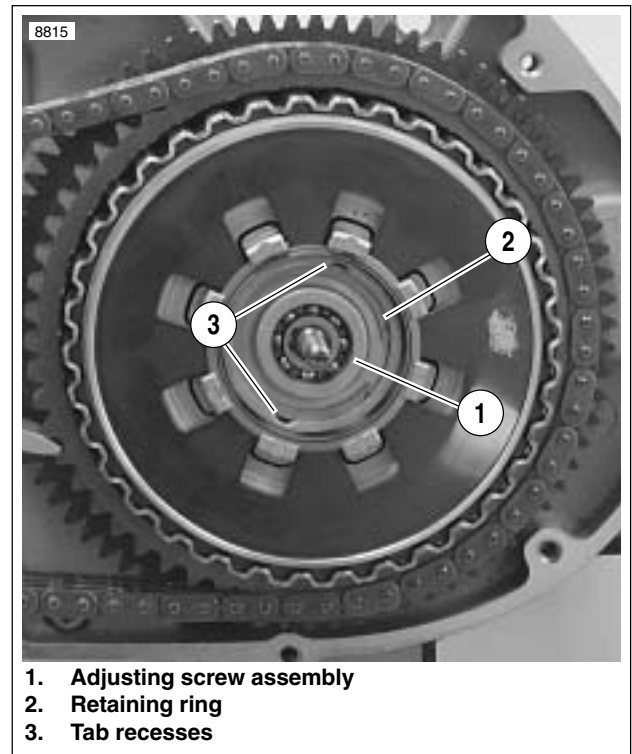

Figure 6-38. Clutch Adjusting Screw Assembly and Retaining Ring
- a. See Figure 6-38. Align two tabs on perimeter of release plate with corresponding recesses (3) in pressure plate.